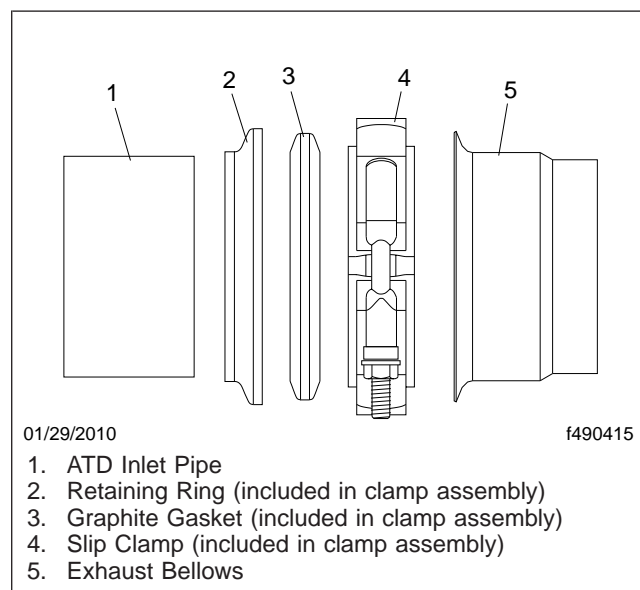

Fig. 5, Aft Facing Slip Clamp Installation
8. Slide the slip clamp assembly, with the retaining ring and graphite gasket, onto the ATD inlet pipe. See **Fig. 5** for proper installation.